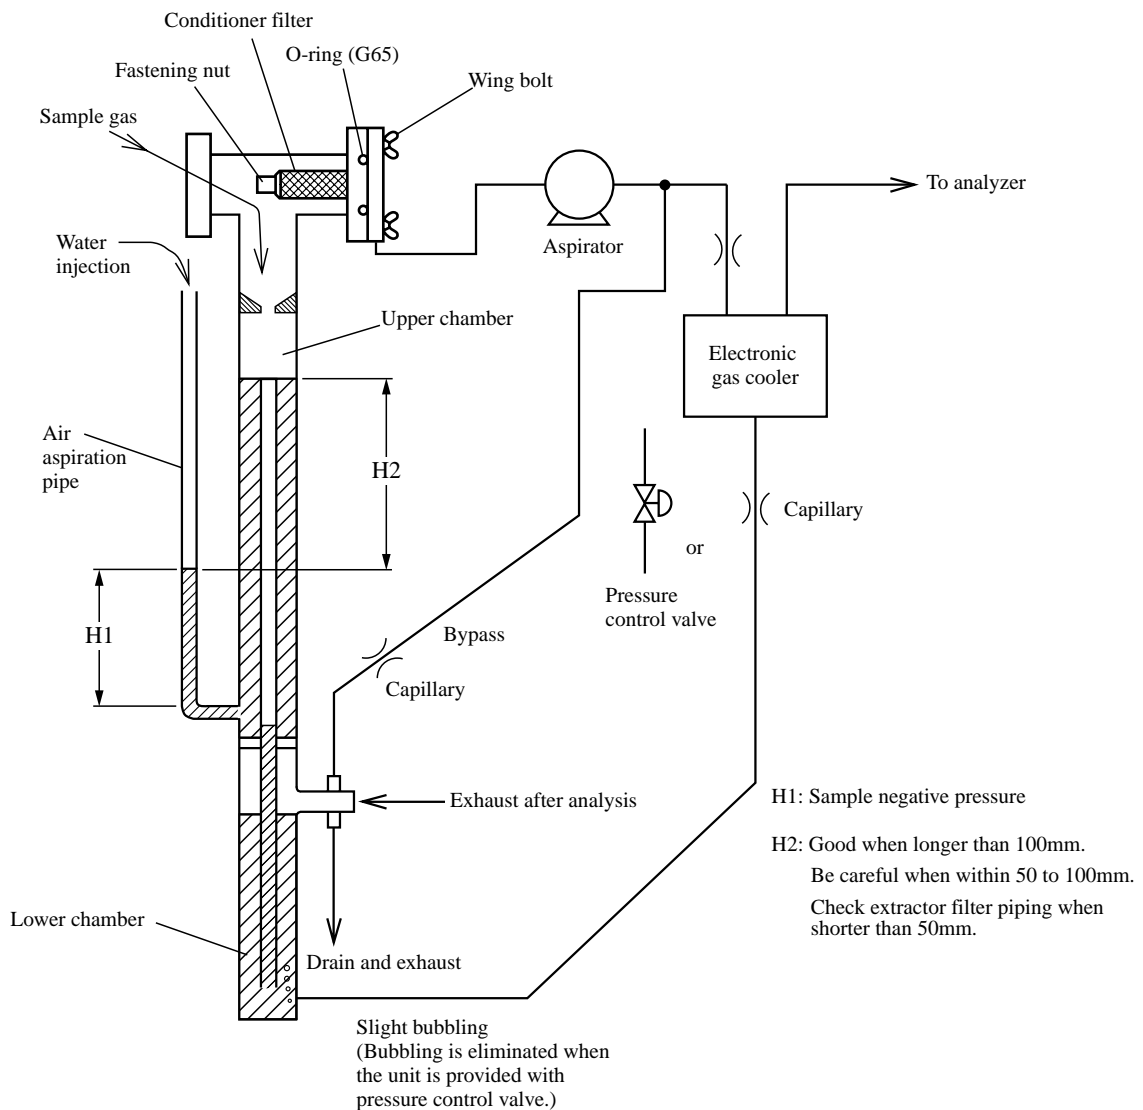

Fig. 10-1 Conditioner
| Conditioner Air aspiration tube level | Good if H2 level shown in Fig. 10-1 is longer than 100mm. If air is aspirated through the air aspiration tube, then the pressure loss at the stage before the conditioner filter has become large. Check the gas extractor filter (see (1) in 10.5) and gas pipes for clogging. |
- (2) Replacement of mist filter element (See Fig. 10-1.)
- (3) Replacement of membrane filter element